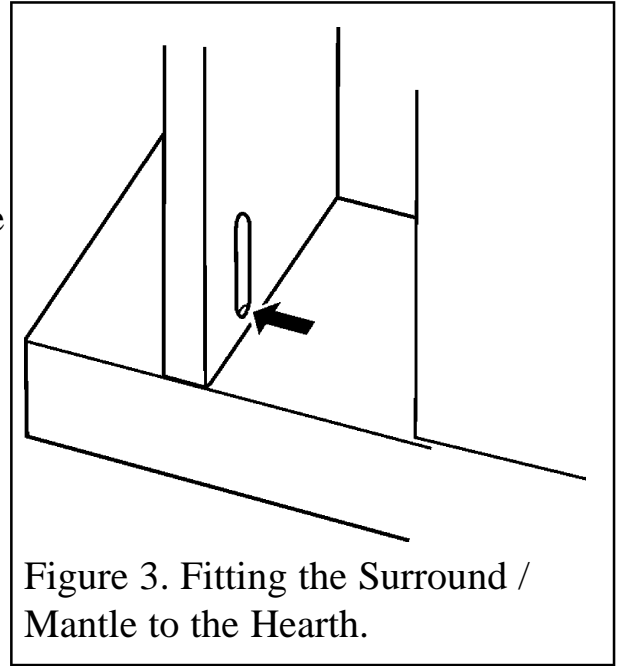

Figure 3. Fitting the Surround / Mantle to the Hearth.
- Lay the Hearth (B) on the floor. Stand the Surround / Mantle (A) on top of the Hearth. Position the Surround / Mantle so that it is central to the Hearth and the rear of the Surround / Mantle legs are flush with the back of the Hearth.
- Secure the Surround / Mantle to the Hearth using two screws (E) through the holes in the Surround / Mantle sides (See figure 3).
- Carefully move the Surround / Mantle and Back Panel into place. Mark the positions of the bracket holes on the wall. Move the assembly aside and drill suitable sized holes. Insert the wall plugs (D). Position the Surround / Mantle and Back Panel into position and secure using two screws (E) as shown in figure 3.